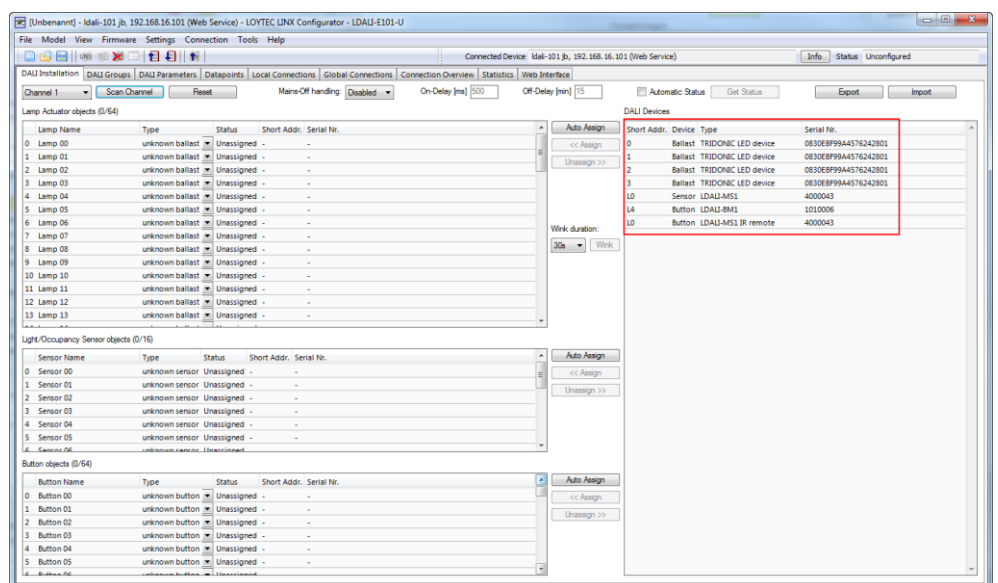

Figure 16: LINX Configurator software, detected DALI devices.
3. The L-DALI device scans the selected channel and displays all detected devices as shown in Figure 16. In case an error occurs see Section 11.4 for a description of the error codes and possible reasons.